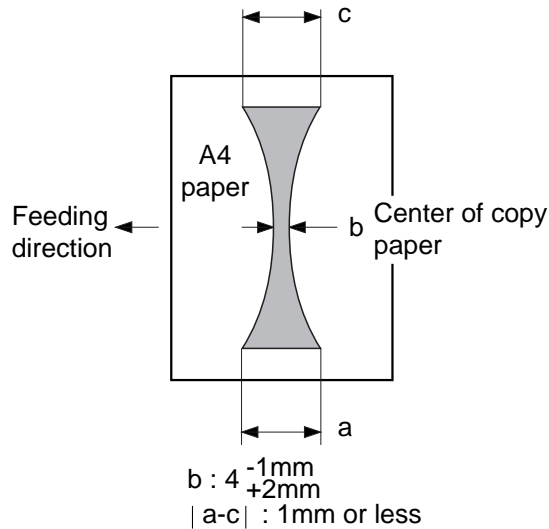

Figure 10-238
The nip should be as indicated in Figure 10-238. You must make the following adjustments if fixing faults occur.
- The multifeeder picks up paper, and the copier positions the paper as in Figure 10-238 for measurement, and discharges it.